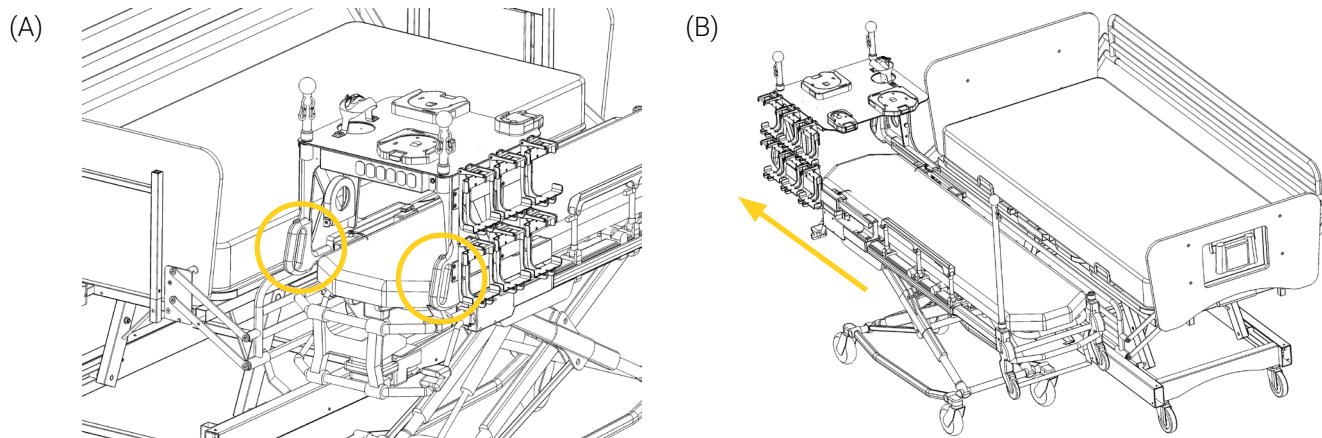

Figure 9: Mobile structure position before lateral transfer
7. Grab the mobile structure handles, then press and hold the quick release mechanisms (Figure 9 A).
8. Pull the mobile structure towards the patient foot end until you have reached the lock pins (Figure 9 B).